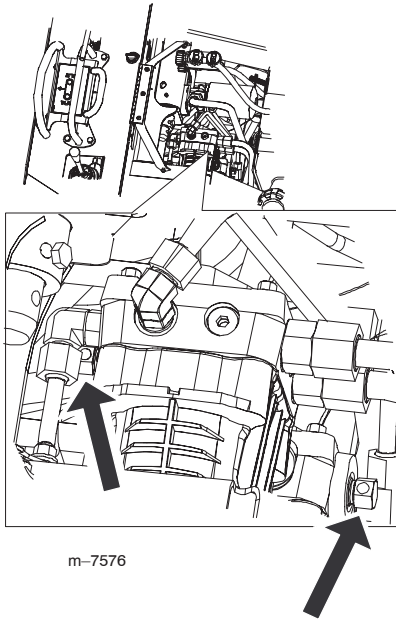

Figure 22
- Using a wrench, turn the tow valves (Fig. 22) on the hydraulic pumps twice counter-clockwise.